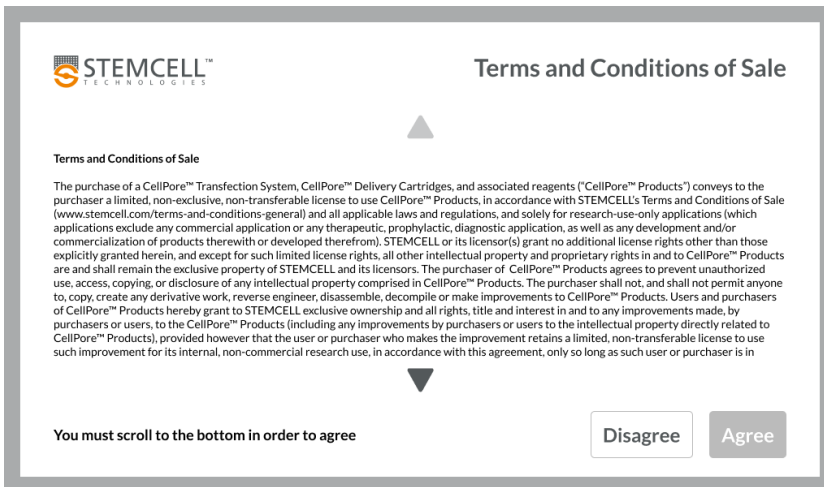

Figure 20. Terms and Conditions of Sale
3. When CellPore™ Transfection System is started for the first time, or a new user profile is created, the Terms and Conditions of Sale are displayed (Figure 20). Read the agreement in full by scrolling to the end. Tap “Agree” to proceed.
4. Review and accept the Terms and Conditions of Sale (Figure 20) to proceed with the creation of a new User Profile.